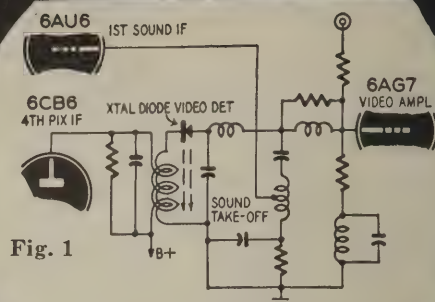

Fig. 1
A. D. Marikle of New York reports an unusual symptom in the RCA KCS-66A series receivers. He has encountered conditions where the receiver has a normal raster, fair or even good sound, but no picture. Normally this would indicate trouble after sound take-off. In three instances, however, he has found this trouble to be a defective 1N60 crystal diode video detector as shown in Fig. 1. This would not ordinarily be suspected, as the sound take-off is beyond the detector circuit. Evidently the rectifying action of these crystals can decline considerably but still permit heterodyning of sound and picture signals to secure the necessary 4.5-mc frequency for the sound i.f. stages.